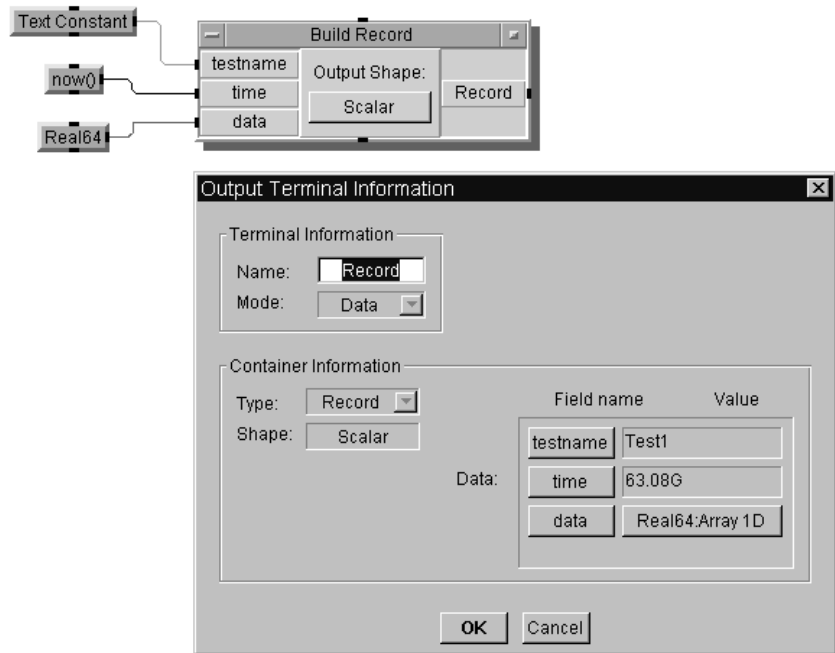

Figure 134 Output Terminal Information on a Record
- 15 Run the program. Double-click on the Record data output terminal to examine the record. It should look like Figure 134.